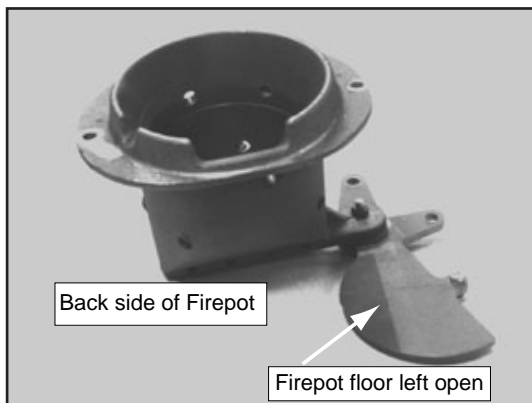

Figure 11.1 - DO NOT LEAVE FIREPOT FLOOR OPEN
- c. The firepot floor plate must be fully closed when finished. **See Figure 11.1 on page 11.**